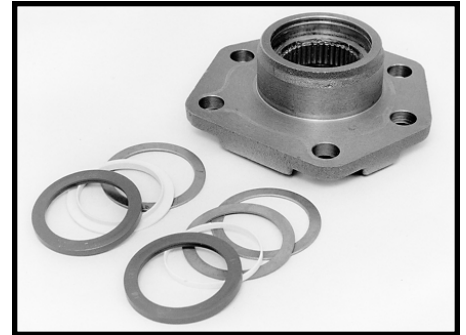

Figure 139
- 33. If side cover (58) is being reassembled, assemble the steel back up washer (56) into side cover. Assemble a new two piece seal (54/55) that has the integral Teflon washer, into the side cover, such that the words "oil side" are visible after the seal is assembled. SEE FIGURE 139.